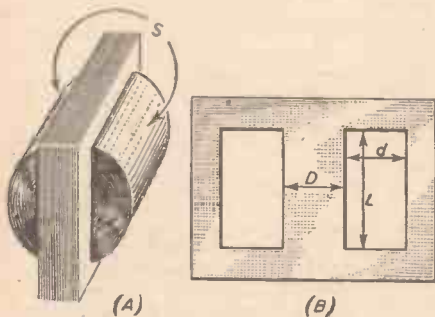

Fig. 2.—(A) Showing the surface areas taken into account in temperature calculations, and (B) the lamination dimensions used.
The factors taken into consideration in assessing a value for S will be understood by referring to Fig. 2(A). The surface area is taken to be the exposed surfaces of the winding on each side of the transformer, shown shaded in the diagram. The parts of the surface covered by the core can be neglected, also the sides of the coil contribute little to the cooling as air trapped between the interleaving papers forms a very effective blanket.
Thus, provided the window space of the lamination is completely filled, as it should be for maximum efficiency, S can be written in terms of the lamination dimensions shown in Fig. 2(B) thus: